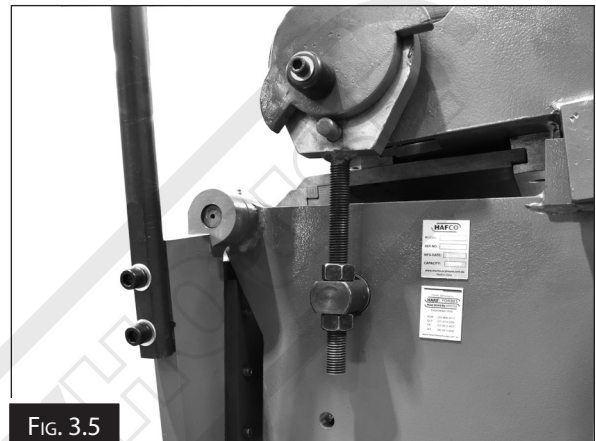

FIG. 3.5
3. Attach the counter weights using two M12 x 40 Sct Hd. set screws and M12 washer on both sides to the main frame. (Fig. 3.5)
5. Mount the stop hub then insert the rod through the bending leaf, and through the stop hub. (Fig. 3.5)